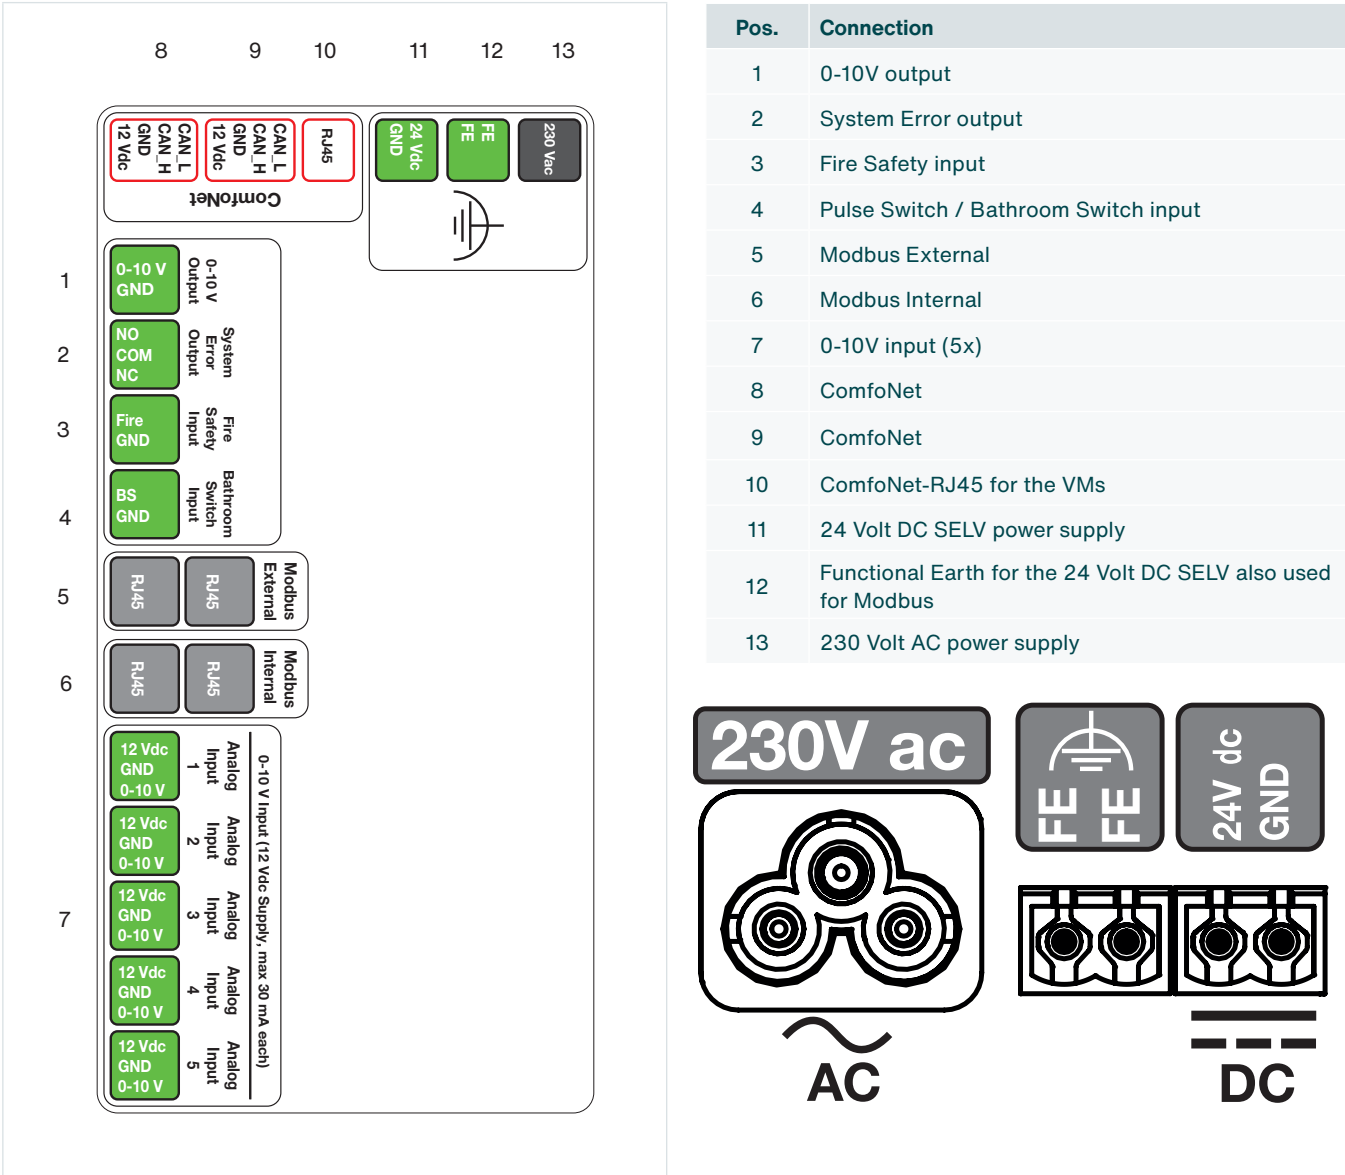
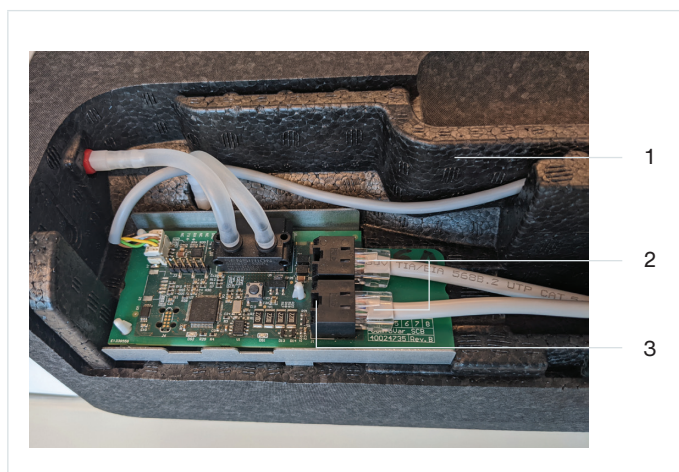
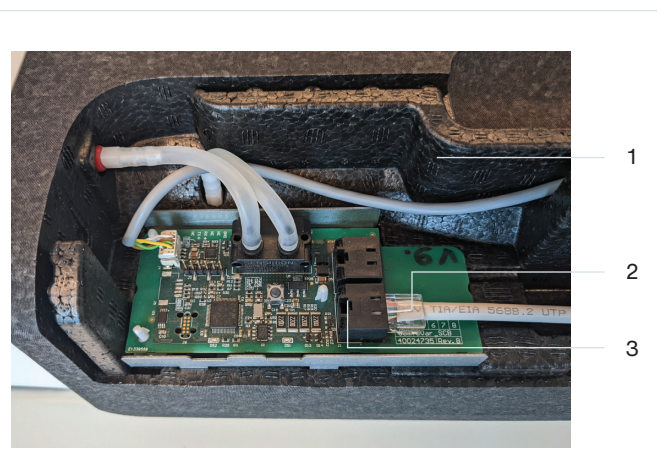

Fig. 5.8 - Connections CM
Fig. 5.9 – RJ45 sockets VM-PCB
Fig. 5.10 – RJ45 sockets VM-PCB
1. Attach the connector of one 230 V AC power supply cable (Fig. 5.8, pos. 13) or one 24 V DC SELV power supply cable (Fig. 5.8, pos. 11).
2. Connect one end of the ComfoNet RJ45 cable to the RJ45 socket (Fig. 5.8, pos. 10) of the CM. Connect the other end of this ComfoNet-RJ45 cable to a ComfoNet-RJ45 socket (Fig. 5.10, pos. 3) of the first VM (Fig. 5.9, pos. 1).
3. Attach a second ComfoNet RJ45 cable to a free ComfoNet RJ45 socket (Fig. 5.10, pos. 3) on the first VM and on a free ComfoNet RJ45 socket (Fig. 5.10, pos. 3) on the second VM (Fig. 5.10, pos. 1).
2. Connect the internal Modbus (Fig. 5.8, pos. 10) with the internal Modbus (Fig. 5.8, pos. 10) of the next CM in the series.
2. Connect the internal Modbus (Fig. 5.8, pos. 10) with the internal Modbus (Fig. 5.8, pos. 10) of the next CM-connect in the series.